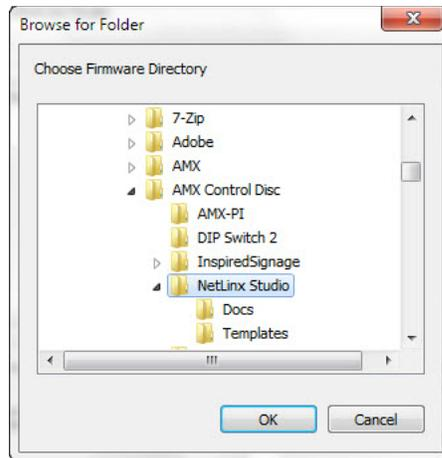

FIG. 34 Browse for Folder window
4. Select the appropriate Kit file from within the *Browse for Folder* window (FIG. 34).